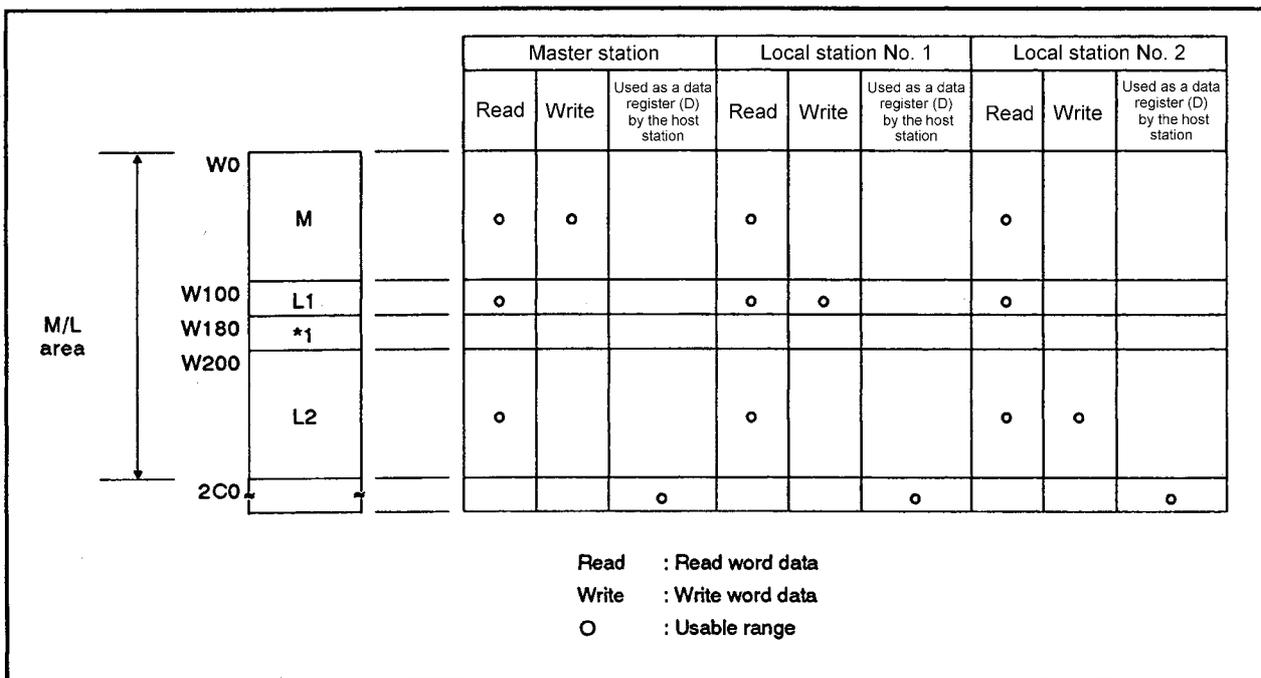

Fig 7.10 Link register (W) assignment example
Fig 7.10 shows the case when assigning 256 points to the master station, 128 points to local station No.1, 196 points to local station No.2, and 128 points empty area between local station No.1 and local station No.2.
- (b) The empty area marked with *1 in the M/L area in Fig 7.10 cannot be used as a substitute for data register (D) in the master station and all local stations. The M/L area is the range of the smallest to the largest device number (W0 to 2BF) assigned by the link parameters.
- (3) Assignment of inputs (X) and outputs (Y)
- In this example, inputs (X) and outputs (Y) are not required because there is an empty area in the link relay (B) assignment. However, to explain the assignment example of local station, 128 input (X) points and 128 output (Y) points have been assigned.